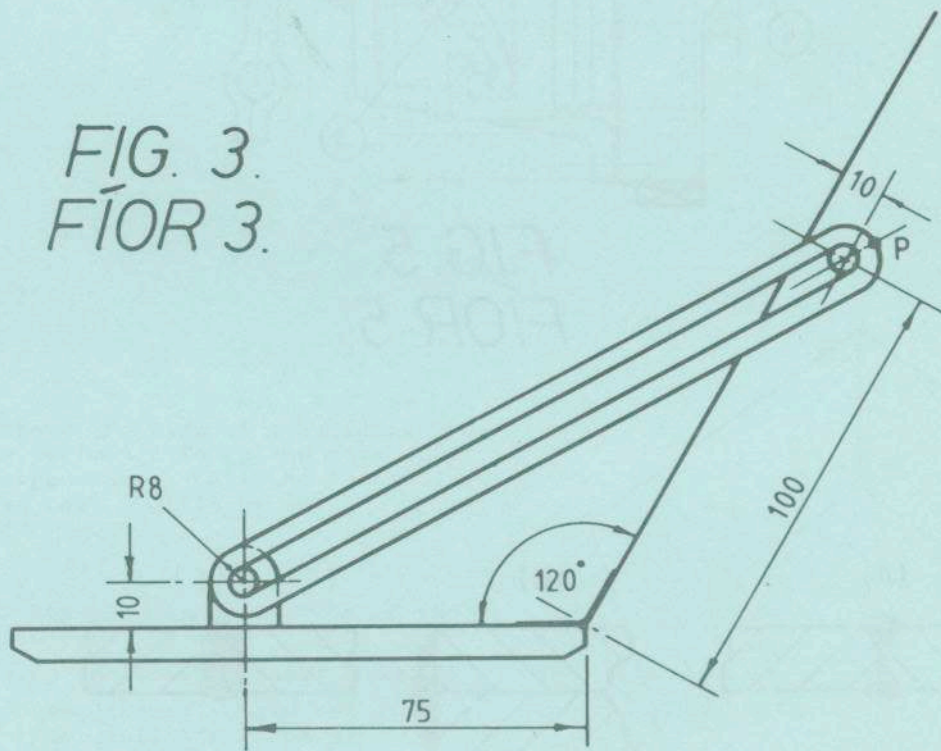

FIG. 3.
- (b) Figure 3 shows a view of a door stay on a tool locker. Using a line drawing to represent the door and stay, trace the locus of end P of the stay, from the fully open position to the fully closed position of the door.